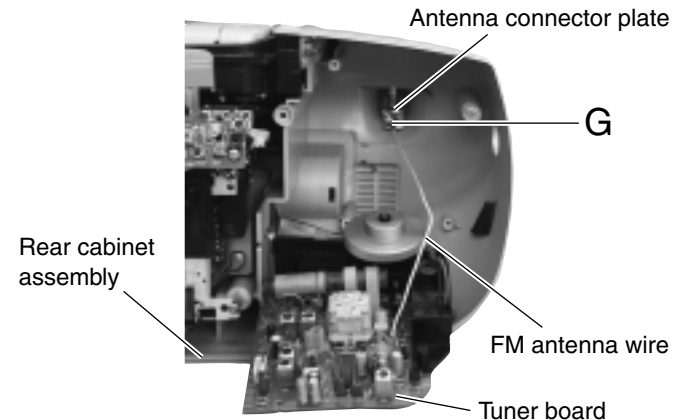

Fig.10
5. Take out the tuner board, then remove the screw **G** retaining the antenna connector plate. (See Fig.10.)